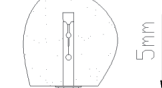

Figure 2
4. As shown in Figure 2, drill 4  $\phi 10 \times 60$  mm holes, fix and tighten expansion screws with a wrench. Loosen nuts of two expansion screws at one side and keep about 5 mm distance between washer and nut. Remove nuts and washers of 2 expansion screws on the other side.